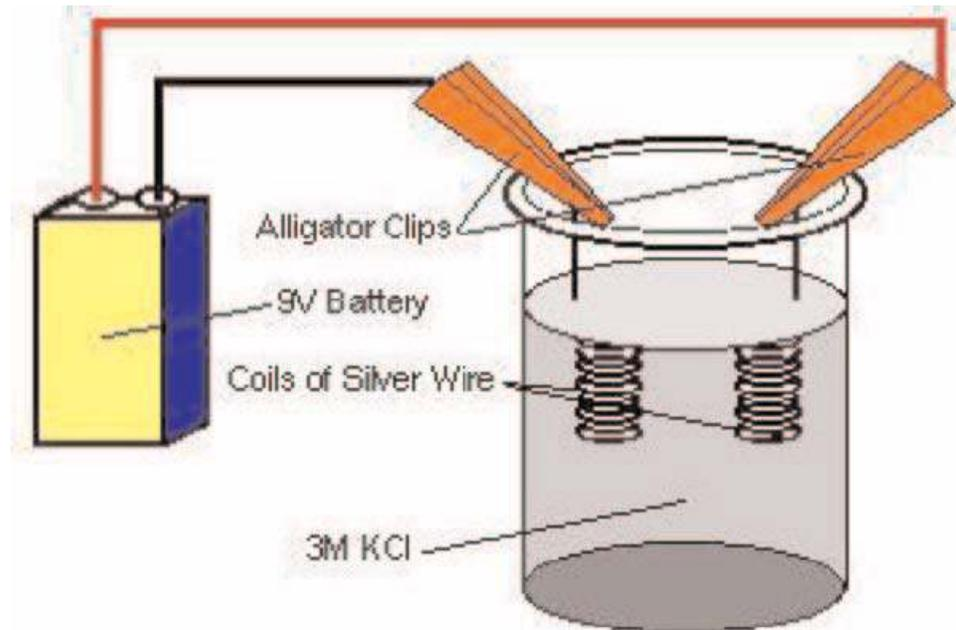

Figure 2: Set up to chloride silver wire.
7. Position each alligator clip in the wax or clay on opposite sides of the rim of the beaker, so that the two wire coils are in solution (Figure 2). It is important that one wire coil does not touch the other, and that the alligator clips or the lead wires of the battery connector are not in solution!